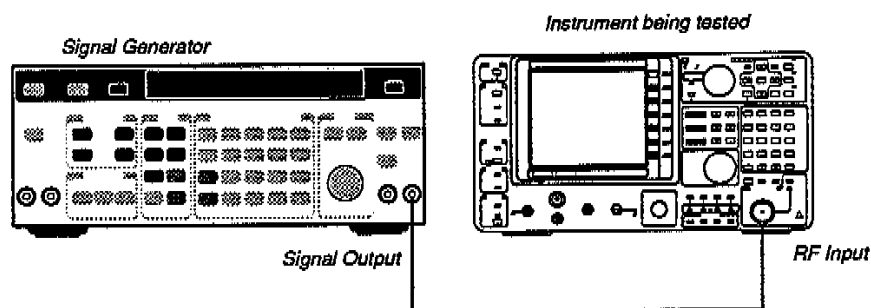

Figure 4-17. Test Equipment Setup for Steps 111-112 of Resolution Bandwidth Shape Factor Check.
2. Connect the signal generator to the instrument RF INPUT connector with a 50 Ω cable (as shown in Figure 4-17). Set the generator for an output-signal frequency of 100 MHz and an amplitude level of 0 dBm.